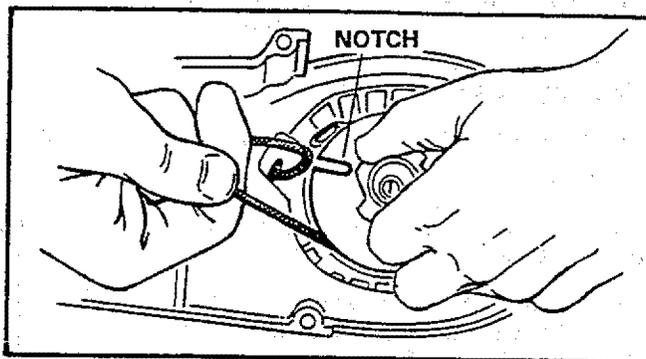

Figure 50
19. Pull out 10 inches of rope and set the rope in the notch in the pulley. Figure 50.